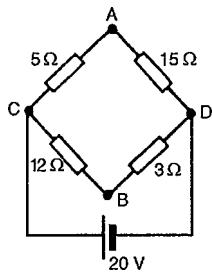

Figure 13.34
- (vii) To find the voltage across AB in Fig. 13.34: Since the  $20\text{ V}$  supply is across the  $5\Omega$  and  $15\Omega$  resistors in series then, by voltage division, the voltage drop across AC,